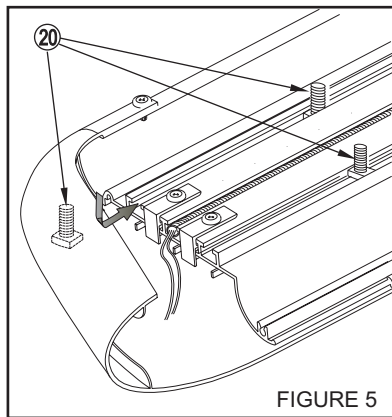
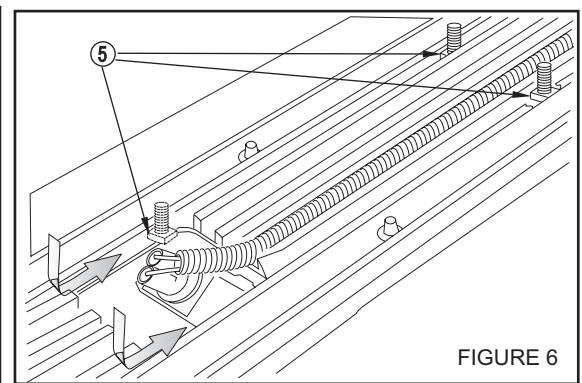

FIGURE 5
FIGURE 6
- STEP 8. Insert square head bolts as shown. (2 per slot, 4 per board). **SEE FIGURE 5.**
- NOTE:** For lighted boards, run wiring harness prior to attaching board to brackets (refer to Step 8). **SEE FIGURES 5 AND 6.** Run longer wire harness on passenger side.
HINT: Step boards: For Longevity, check rubber seals before installation. Rubber grommets around red and blue wires going into rear sockets, should be inserted and recessed about 1/4". **NOTE:** Remove bulbs and apply white grease into sockets and replace bulbs. Apply RTV Silicone where lights go into socket. Install lights and run wire loom as shown. **SEE FIGURE 6.** For Sure-Grip Running Boards, run wire loom down center as shown. **SEE FIGURE 5.**